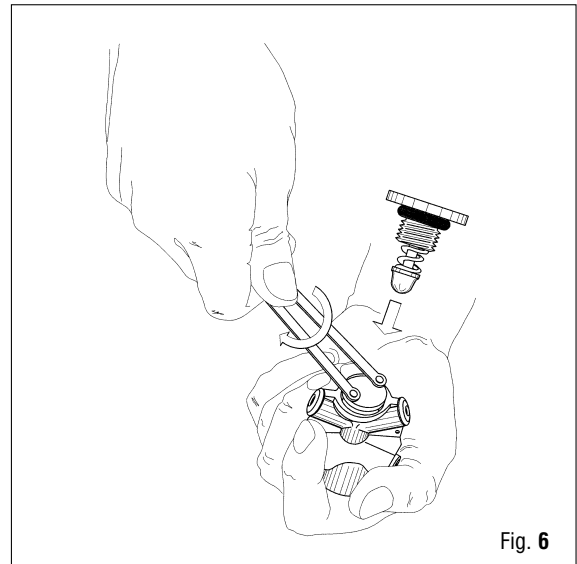

Fig. 6
20. Position the O-ring (74) in the external seat of the HP housing (4).
21. Insert the backup ring (5) and the O-Ring (6) into the HP housing (4).
22. Insert the poppet (9), positioning the spherical part in contact with the seat connector.
23. Position the spring (8) on the first stage poppet (9).
24. Screw the HP housing (4) into the first stage body (1) (Fig. 6).